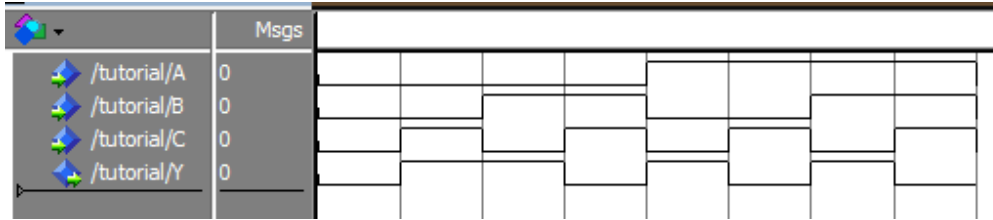

Figure 1.7: Simulation results in the Wave pane
4. Next run the simulator by clicking the Run button, immediately to the right of the Run Length text box. The resulting simulation waveforms are shown in Figure 1.7.